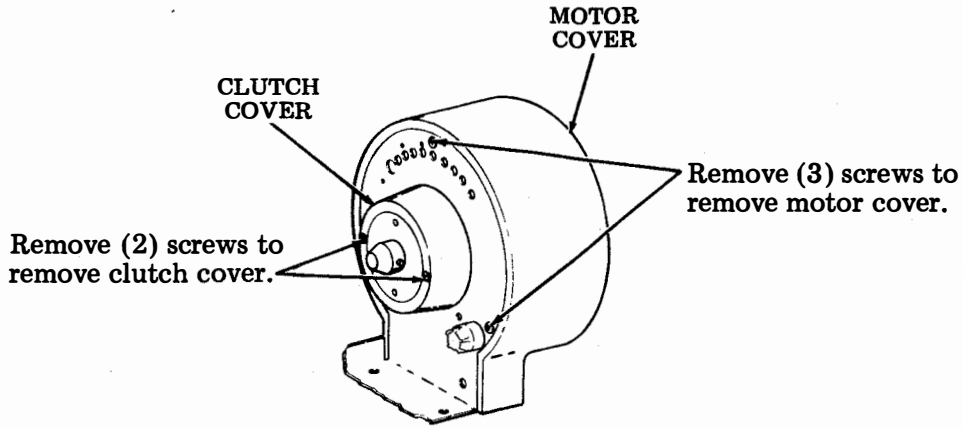
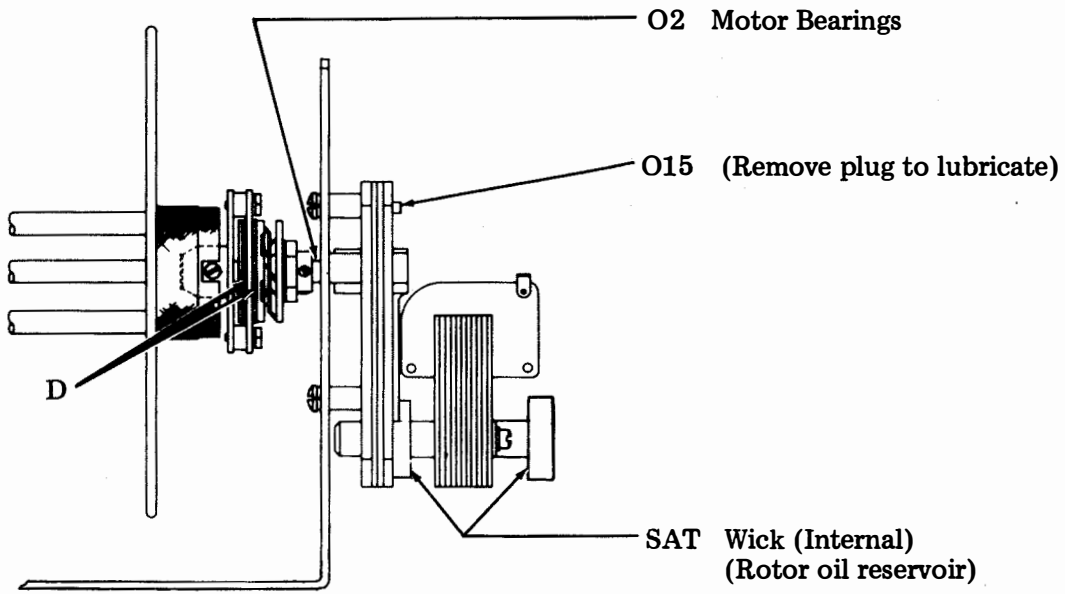

Fig. 11
Fig. 12
6.02 The paper winder motor cover and clutch cover must be removed to provide access to lubrication points (Fig. 11). Lubricate per Fig. 12 and 13.